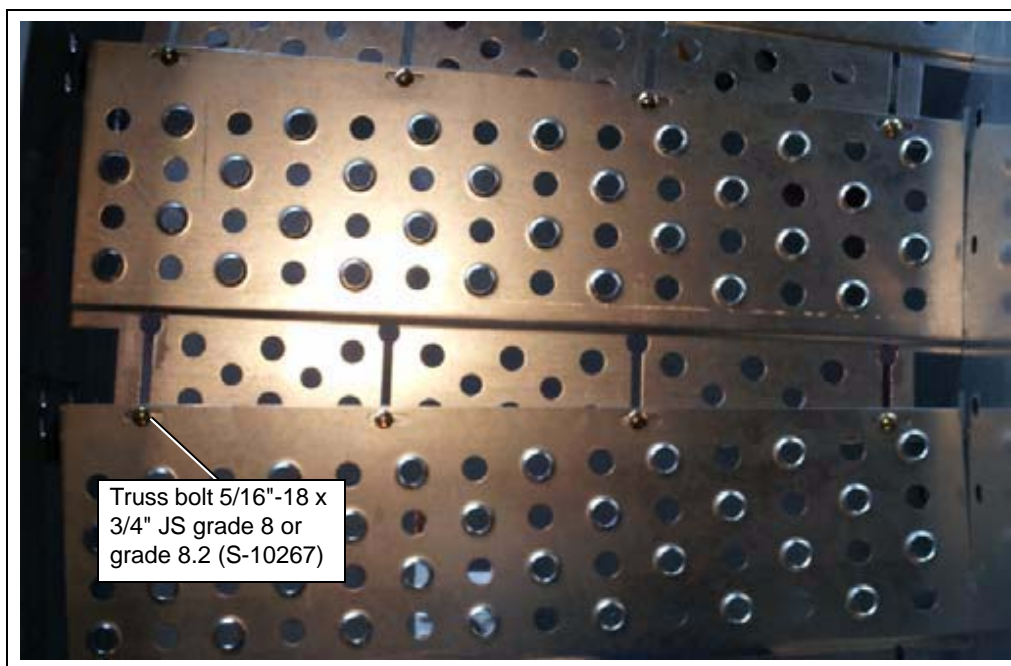

Figure 6Q
4. Each plank should be overlapped at the edges and bolted with 5/16"-18 x 3/4" JS grade 8 or grade 8.2 bolts (S-10267) and 5/16"-18 x 3/4" JS grade 2 nuts (S-10268). (See Figure 6Q.)